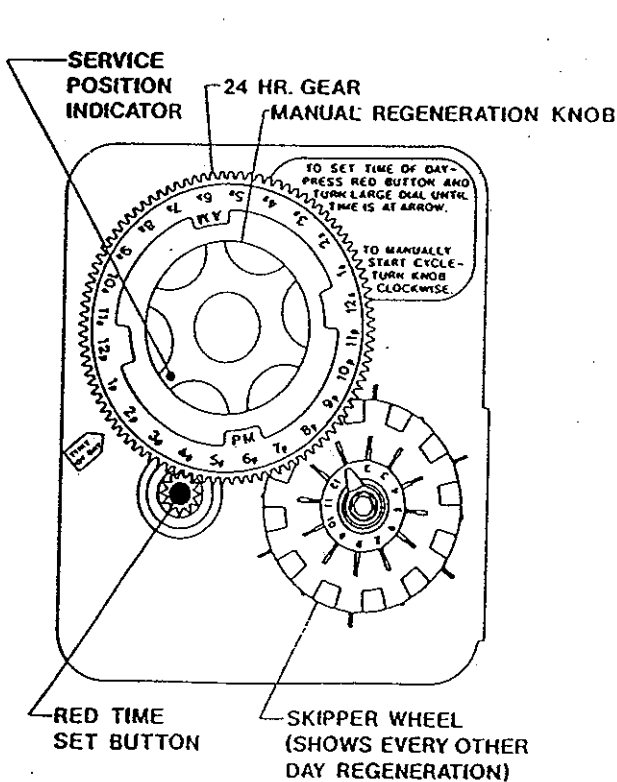

Figure 1
1. The control valve **must be in the SERVICE position!** If needed, rotate manual regeneration knob on timer clockwise until white dot aligns with raised time of day arrow. (See Figure 1.)
1. The control valve **must be in the SERVICE position!** If needed, rotate manual regeneration knob on timer clockwise until white dot aligns with raised time of day. (See Figure 1.)
1. Locate the skipper wheel just to the right of the manual regeneration knob. (See Figure 1.)
NOTE: The red pointer represents "tonight" in the regeneration program. (See Figure 1.)
NOTE: Figure 1 shows the skipper wheel set for every two (2) days.
1. Depress the red button on lower left side of timer door. (See Figure 1.)